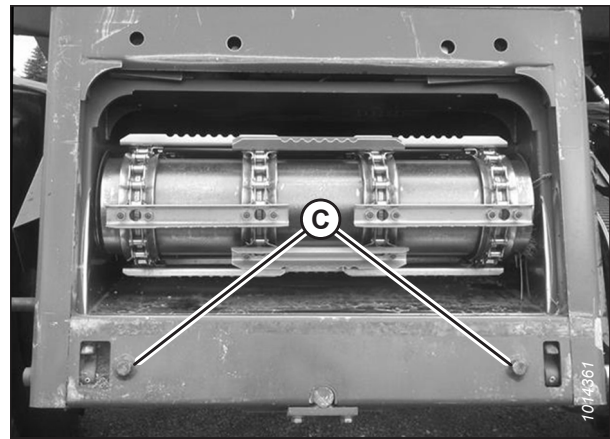

Figure 4.23: Alignment Pins
3. Start the engine and slowly approach the header until the feeder house is directly under float module top cross member (A) and alignment pins (C) (refer to Figure 4.23, page 374) on the feeder house are aligned with holes (B) in the float module frame.